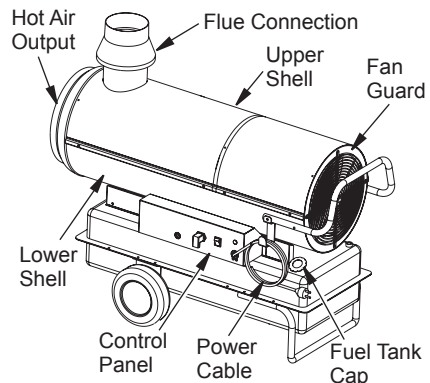

Figure 4 - Vented Portable Forced Air Heater
- Insert the flue connection onto the flue outlet tube (see Figure 4).